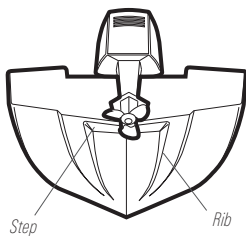

Figure 10
- On boats with stepped hulls, it may be possible to mount the transducer on the step. Do not mount the transducer on the transom behind a step to avoid popping the transducer out of the water at higher speeds; the transducer must remain in the water for the control head to maintain the sonar signal (Figure 10).